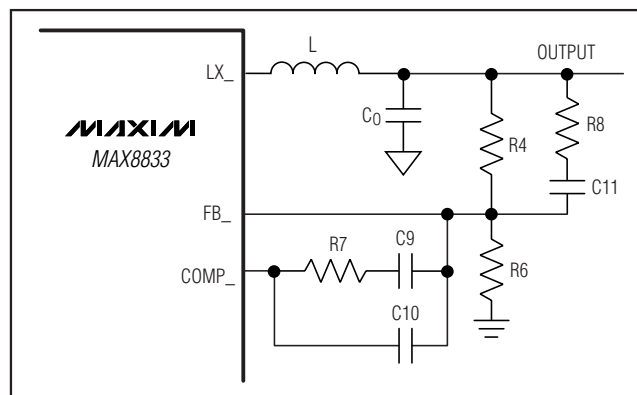

Figure 4. Type III Compensation Network
The output voltages for regulator 1 (with REFIN connected to SS1) and regulator 2 are set with a resistor voltage-divider connected from the output to FB_ to GND as shown in Figure 4. Select a value for the resistor connected from output to FB_ (R4 in Figure 4) between 2kΩ and 10kΩ. Use the following equations to find the value for the resistor connected from FB_ to GND (R6 in Figure 4):
The high-switching-frequency range of the MAX8833 allows the use of ceramic output capacitors. Since the ESR of ceramic capacitors is typically very low, the frequency of the associated transfer-function zero is higher than the unity-gain crossover frequency, f_{C} , and the zero cannot be used to compensate for the double pole created by the output filtering inductor and capacitor. The double pole produces a gain drop of 40dB and a phase shift of 180° per decade. The error amplifier must compensate for this gain drop and phase shift to achieve a stable high-bandwidth closed-loop system. Therefore, use type III compensation as shown in Figure 4. Type III compensation possesses three poles and two zeros with the first pole, $f_{\text{P1_EA}}$, located at 0Hz (DC). Locations of other poles and zeros of type III compensation are given by: